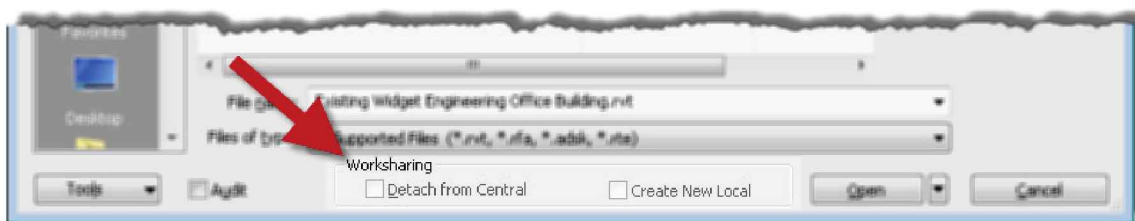

FIGURE 17-4.1 Worksharing options in the Open dialog
- b. While in the **Open** dialog, notice the Worksharing options at the bottom—they are grayed out because the selected file does not have Worksharing enabled (Figure 17-4.1).